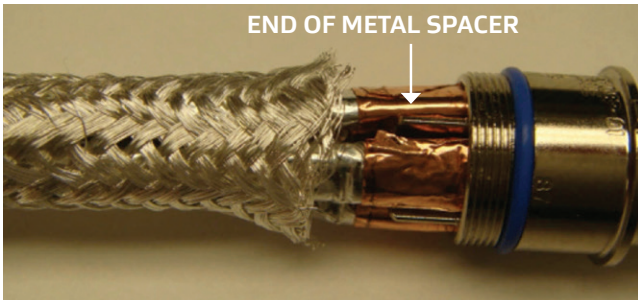

Figure 20: Trimming the braid
13. Gently slide the braid back toward the connector, and trim any excess where the braid meets the metal spacers in the connector (Figure 20).